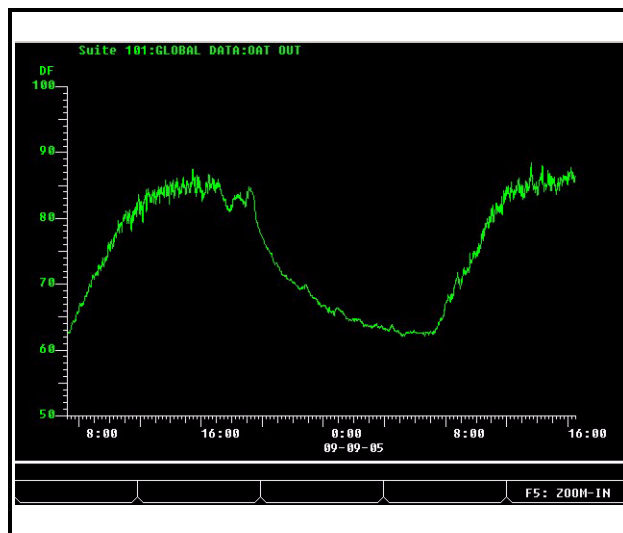

Figure 12-27 - Sample Graph View
- **F3** GRAPH - Displays logged data in a graph format (see *Sample Graph View Figure 12-27*).